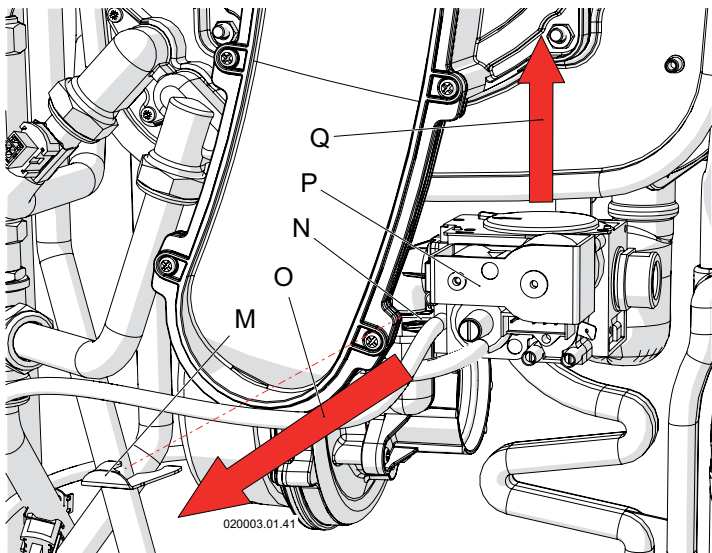

Figure 6-4 - Removing the gas valve
- 16 - remove the clamping spring "M" from the seat "N" releasing the valve "P" (See figure 6-4);
19. - remount the gas valve (see figure 6-4, detail "P"), making sure to reposition the spring "M".